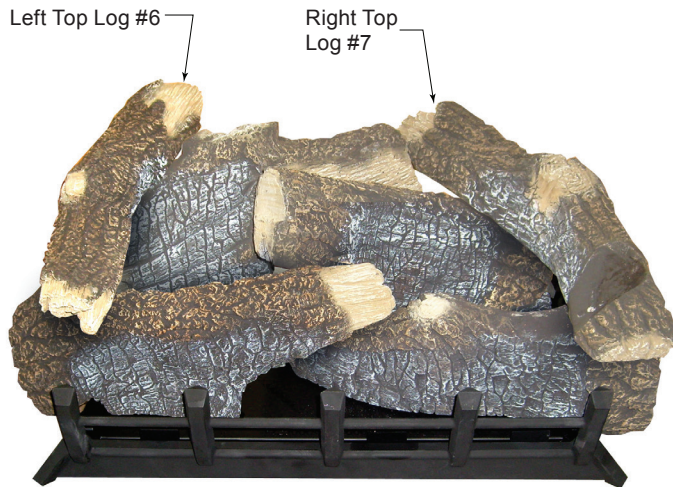

Figure 40.
log (#5) using locating grooves on bottom of #6 and locating blocks on logs #4 and #5. Figure 40.
- Place right top log (#7) on right rear log (#3) and right front log (#2) using locators on the bottom of log #7 and locators on logs #2 and #3. Figure 40.